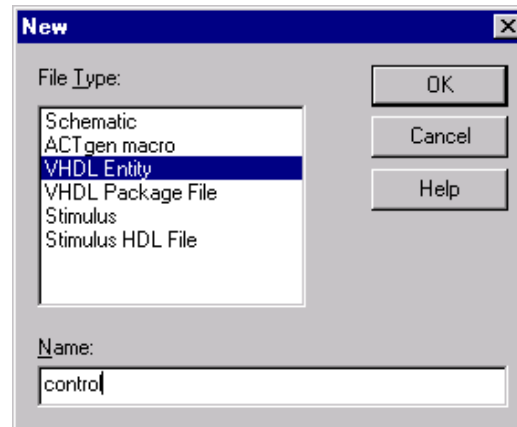

Figure 8 - Opening the HDL editor
1. From the File menu in the Libero IDE, click **New**. Select VHDL Entity (or Verilog Module) under File Type in the New dialog box and specify the name as **control** (Figure 8).